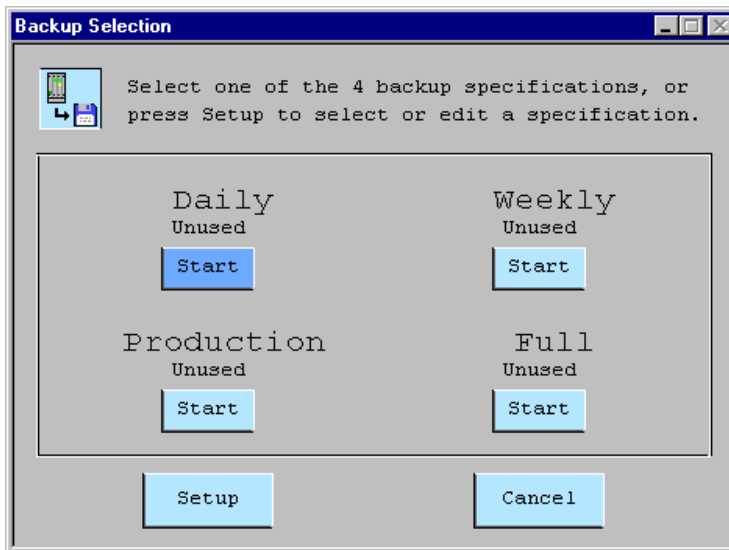

Figure 16-2
- 5 Select one of the check boxes if you want this definition to appear as one of the standard buttons on the Backup Selection window (see Figure 16-2). If another backup definition has already been assigned to that button, a window will warn you and then allow you to reassign the button or keep the current assignment.